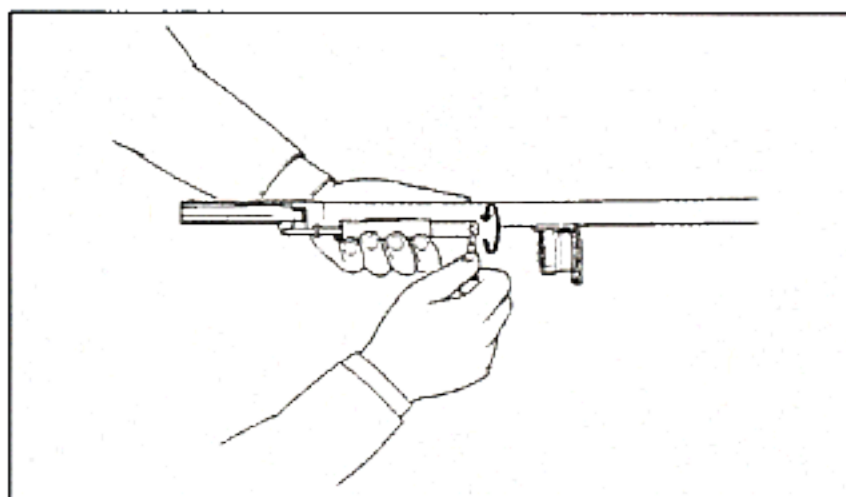

Figure 30b. Tightening the gas cylinder plug
- B. Install and tighten the gas cylinder plugs in a clockwise direction as viewed from the front of the barrel using the bolt handle (Figure 30b).